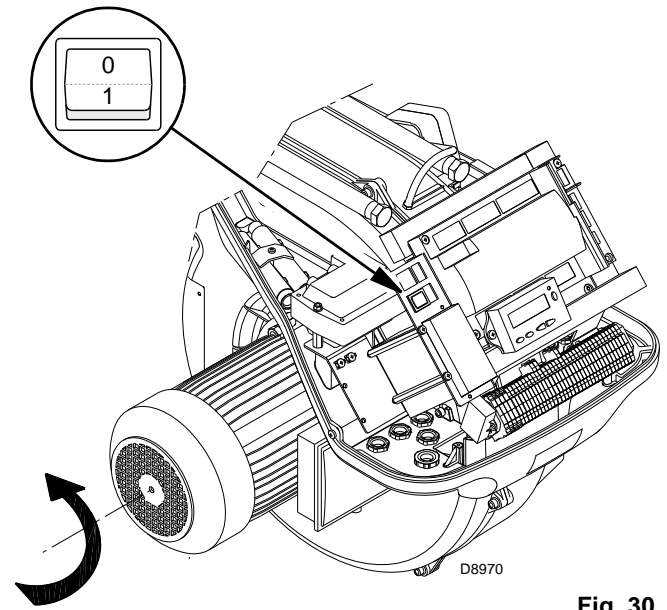

Fig. 30
Close the thermostats/pressure switches and turn the switch of Fig. 30 to position "1".
As soon as the burner starts up, go in front of the cooling fan of the fan motor and check it is rotating anticlockwise. See Fig. 30.
- place the switch of Fig. 30 in position "0" and wait for the control box to carry out the switch-off phase;
The burner is in the heat request waiting mode, or the selector “0-1” (Fig. 30 at page 30) is at “0”.